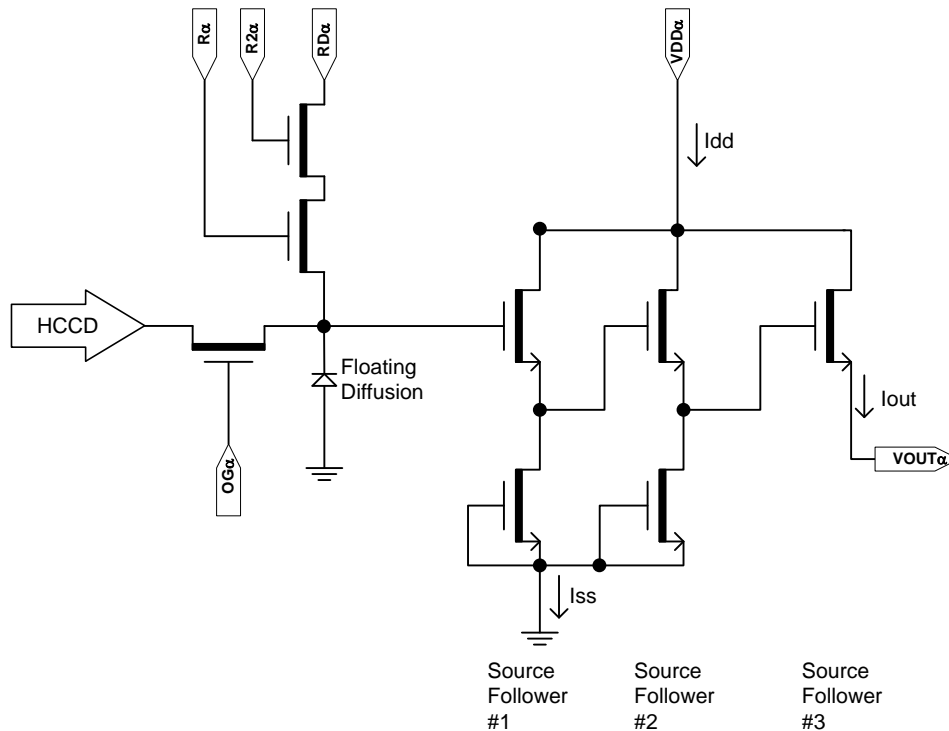

Figure 24: Output Amplifier
2. The maximum DC current is for one output. I_{dd} = I_{out} + I_{ss}. See Figure 24.